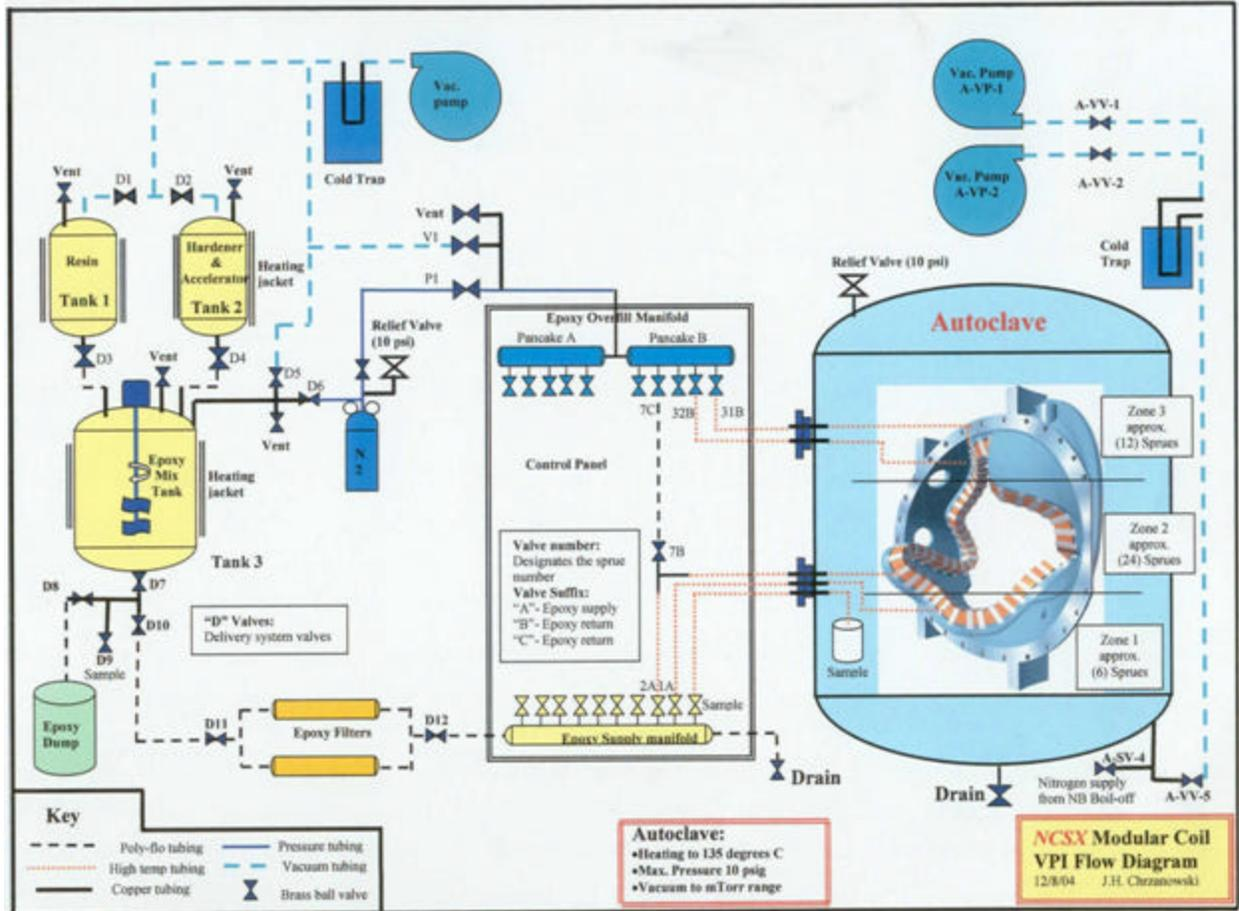

Figure 1- VPI Delivery System
6.8.1 Using Diagram Figure 1- VPI Delivery System, connect the modular coil to the epoxy delivery system. The number of coil connections as well as the connection details will be at the discretion of the VPI Director. CLEARLY identify sprue numbers so that they are visible from the autoclave windows. Record sprue location on appropriate figure- Figure 8-Sprue Locations for Type C Casting, Figure 9- Sprue Locations for Type B Casting, Figure 10-Sprue Location for Type A Casting, Figure 11- Sprue Locations for Twisted Racetrack Coil.